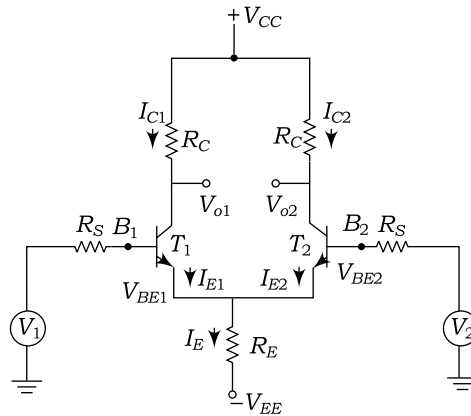

Fig. 6.52
19. The difference amplifier as shown in Fig. 6.52 has the following parameters: